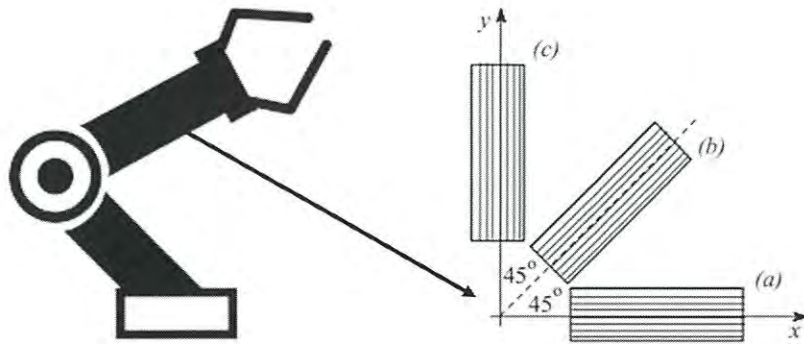

Figure Q1
- Q1** The  $45^\circ$  strain rosette is mounted on a steel robotic arm as shown in **Figure Q1**. The robotic arm is made from steel with  $E_{\text{steel}} = 200$  GPa and poisson ratio,  $\nu = 0.3$ . The following readings are obtained for each gauge: